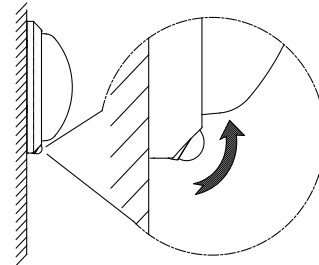

Fig. 5
- On the other hand, for wall mounting, the sensor's lens aiming higher can maximize the detection range. (Ref. to Fig.5)